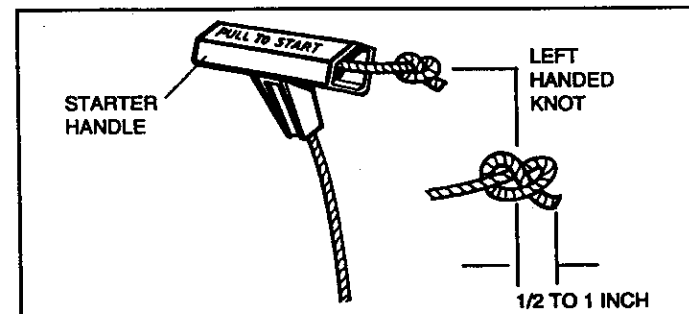

Figure 5
- D. Feed starter rope through starter handle (see Figure 5) and tie a left hand knot, leaving 1/2 inch to 1 inch of starter rope extending beyond left hand knot. DO NOT PULL LEFT HAND KNOT INTO STARTER HANDLE YET.